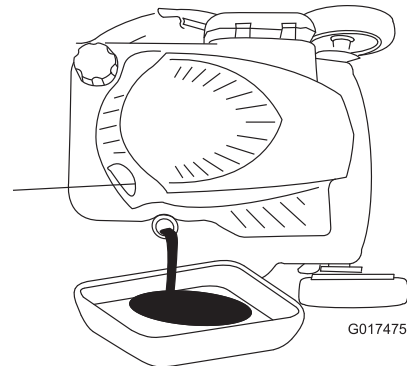

Figure 32
3. Tip the machine onto its side, with the dipstick down, to drain the used oil out through the oil-fill tube (Figure 32).